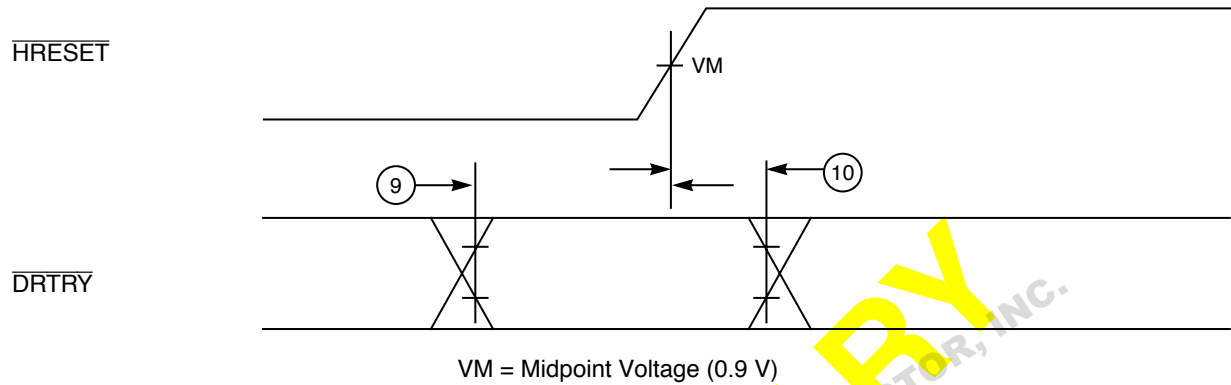

Figure 3. Mode Select Input Timing Diagram
3. The setup and hold time is with respect to the rising edge of HRESET (see Figure 3).
Figure 3 provides the mode select input timing diagram for the 604e.